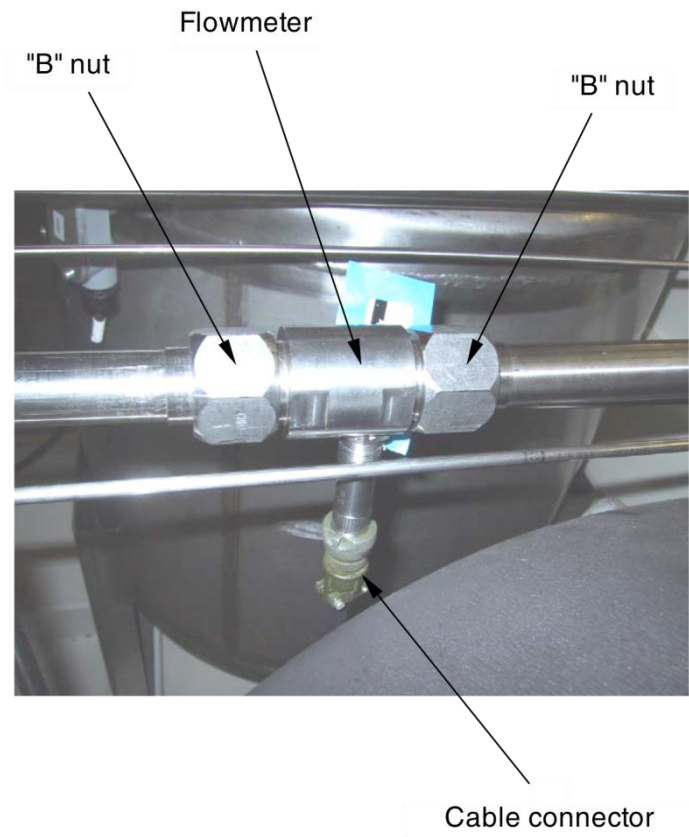

FIGURE 13 - Flowmeter Replacement
9.12 FLOWMETER REPLACEMENT (FIGURE 13)